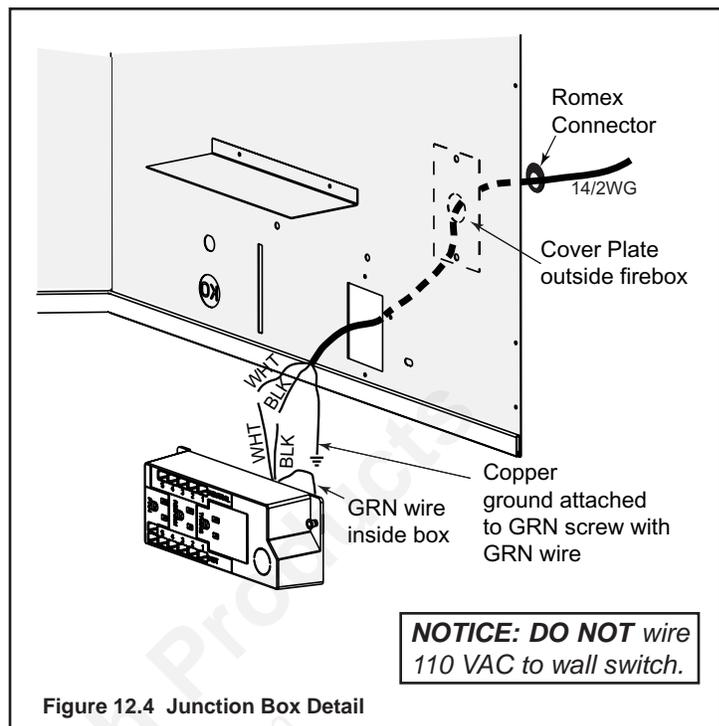

Figure 12.4 Junction Box Detail
- Remove the screw attaching the junction box/receptacle to the outer shell, rotate the junction box inward to disengage it from the outer shell (see Figure 12.4).
- Pull the electrical wires from outside the appliance through the opening into the valve compartment and secure wires with a Romex connector. See Figure 12.4.